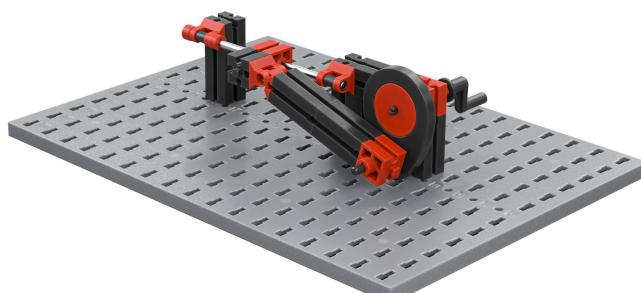

Fig. 2: Thrust crank
1. A mechanism very similar to the crank swing is the "push crank" shown in Fig. 2